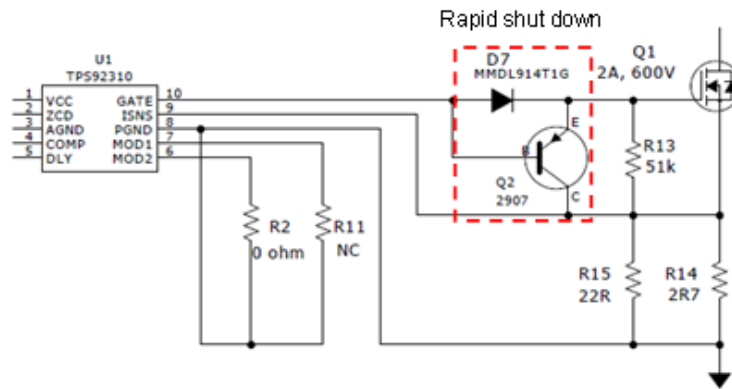

Figure 10. Rapid Shut-down Circuit
1. Add a fast shut-down circuit (shown in Figure 10). It can reduce the MOSFETs turning on delay and improve the current tolerance of 5 mA at 230 Vac in this design.